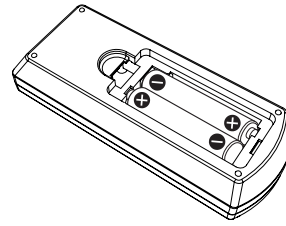

Fig.2
- 2) **Insert batteries and close the cover. (Insert the "⊖" side first.) (Fig. 2)**